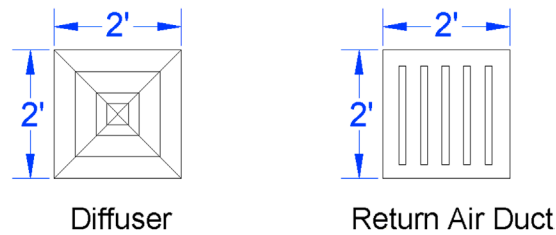

FIGURE 16.16 Diffuser and return air duct symbols.
**Step 2.** Create some HVAC symbols, as shown in Fig. 16.16. Make blocks out of them for easier handling. Be sure to be on that object's layer before making a block.